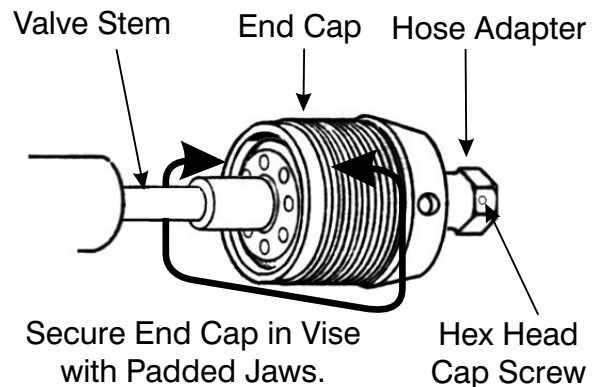

Figure 8-15. Remove Hose Socket from Valve Stem.
1. With the End Cap (10) secured to prevent rolling, detach the Hose Adapter (15) from the Valve Stem (8). Refer to Figure 8-15.